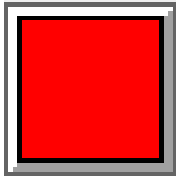

Figure 2.18
If a door is opened by any means other than the touchscreen operator or granted "INMATE CONTROL", an unauthorized access, (UA), alarm appears on the screen followed by an audible tone notifying the touchscreen operator of the alarm condition. An Unauthorized Access Alarm is represented by a flashing red square indication banner on the door switch icon, (See Figure 2.18).
If a door is left open for more than 15 seconds, (or time determined by owner), a prop alarm appears on the screen followed by an audible tone notifying the touchscreen operator of the alarm condition. A Prop Alarm is represented by a flashing red square indication banner on the door switch icon, (See Figure 2.18), same as a UA.